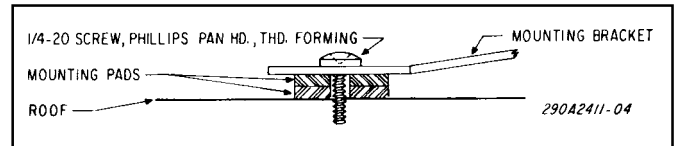

Figure 3.
5. Place the light assembly halves in position on the roof. Insert two mounting pads between the light assembly halves and roof for each mounting bracket leg (see figure 3). Secure the light assembly halves to the roof using eight 1/4" x 3/4" thread-forming screws and tighten securely. The ViewPoint should now be solidly anchored to the roof.